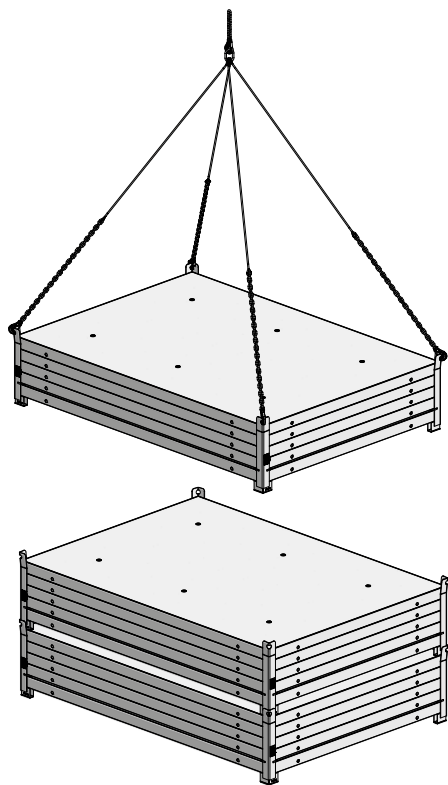

Fig. 4: a maximum of three identical stacks of wall formwork panels may be stored one on top of the other.
A maximum of three stacking units may be stacked one of top of the other for storage purposes (Fig. 4). Only panel stacks with the same dimensions may be stored one on top of the other.
- The total load capacity must not be exceeded (see section 5). The opening angle of the crane sling must not exceed 60° (Fig. 4).
- The adjustable bracket ② must always be set to suit the wall formwork panel in question.
- All bolts ③ must be installed in the plate with adjustable bracket.